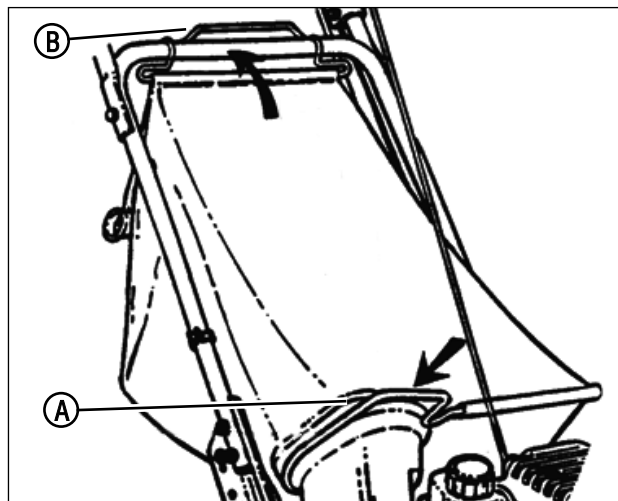

Figure 12: Installing the grass bag
2. Install the grass bag by sliding the connector (A, Figure 12) over the adapter flange.
3. Attach the grass bag hooks (B) over the middle handle cross bar.